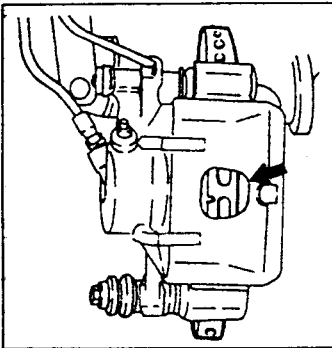

Fig. 13.2. — Check the thickness of the brake pad material through the opening in the caliper.
- Before the caliper is removed, check the thickness of the brake pad material through the "window" in the caliper, shown by the arrow in Fig. 13.2. If a thickness of 2.0 mm (0.08 in.) remains, approx. the thickness of two matchsticks, there is no need to replace the pads.